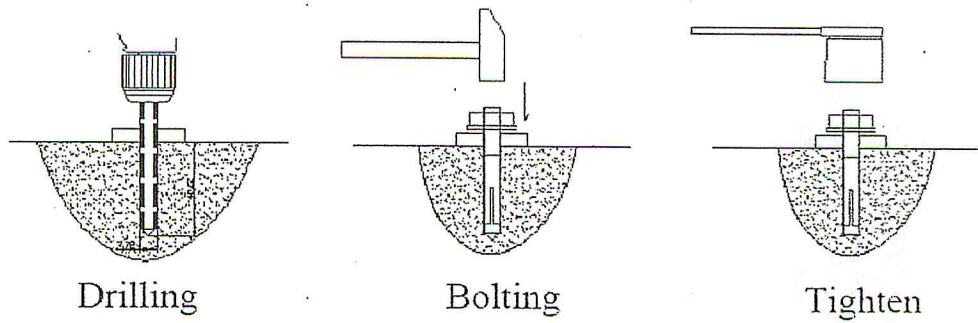

Fig. 15
2. Use a rotary hammer drill and 3/4" masonry bit. Drill all the anchor holes for the powerside leg and install the anchor bolts. Tighten the anchor bolts (See Fig. 15). Anchor offside leg after installation is complete.